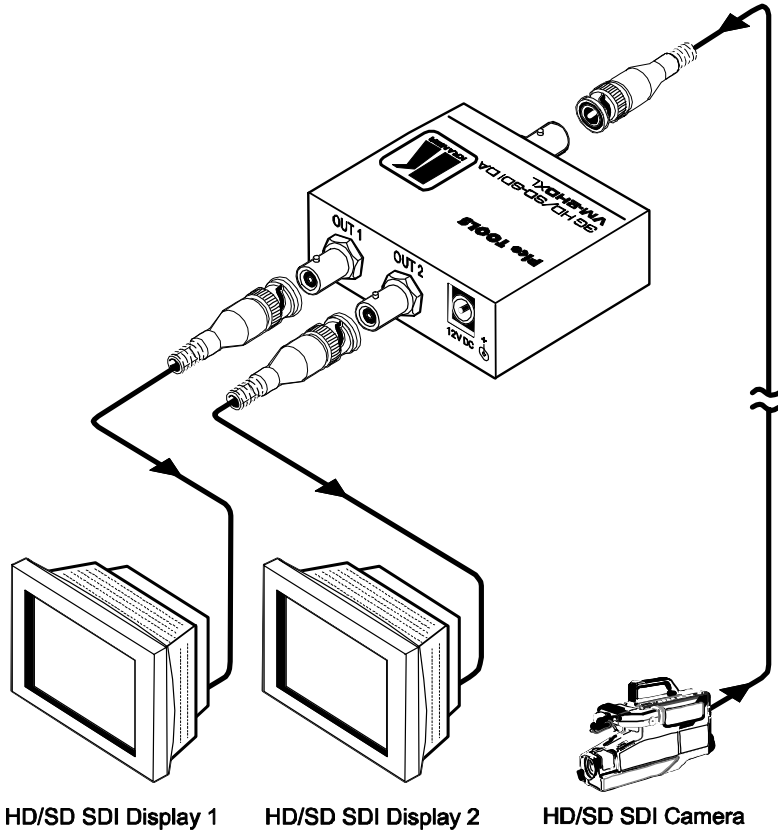

Figure 2: Connecting the VM-2HDxl 3G HD/SD - SDI DA
To connect the **VM-2HDxl**, as the example in Figure 2 illustrates, do the following:
3. Connect the 12V DC power adapter to the power socket and connect the adapter to the mains electricity (not shown in Figure 2).